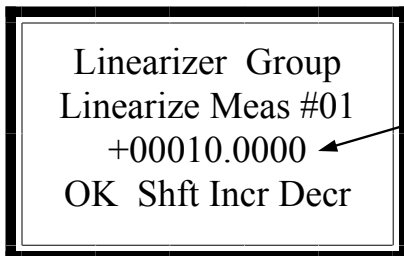

Figure 11g: Selecting the value within the each Register.
9) Enter in the correct value. Press the OK key. See Figure 11g